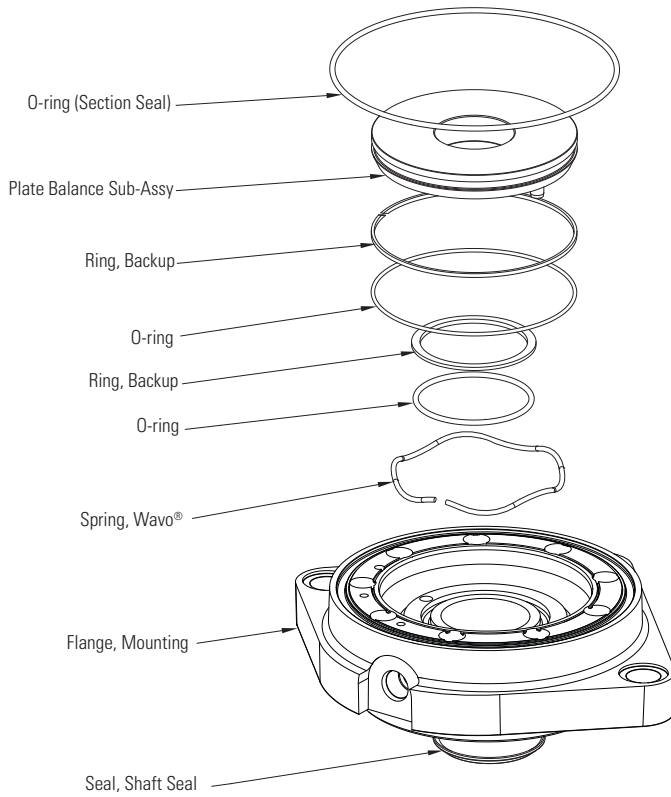

Figure 4
- 4.2.2 With mounting flange O-ring grooves up (see Figure 4), install O-ring section seal (139,4 [5.49] ID) into flange. Install back-up ring (62,1 [2.45] OD) over O-ring (55,2 [2.18] ID) with flat side up. Back-up ring and O-rings may be greased to assist in retaining parts.
- 4.4.2 With mounting flange O-ring grooves up (see Figure 4), install O-ring section seal (139,4 [5.49] ID) into flange. Install back-up ring (62,1 [2.45] OD) over O-ring (55,2 [2.18] ID) with flat side up. Back-up ring and O-rings may be greased to assist in retaining parts.